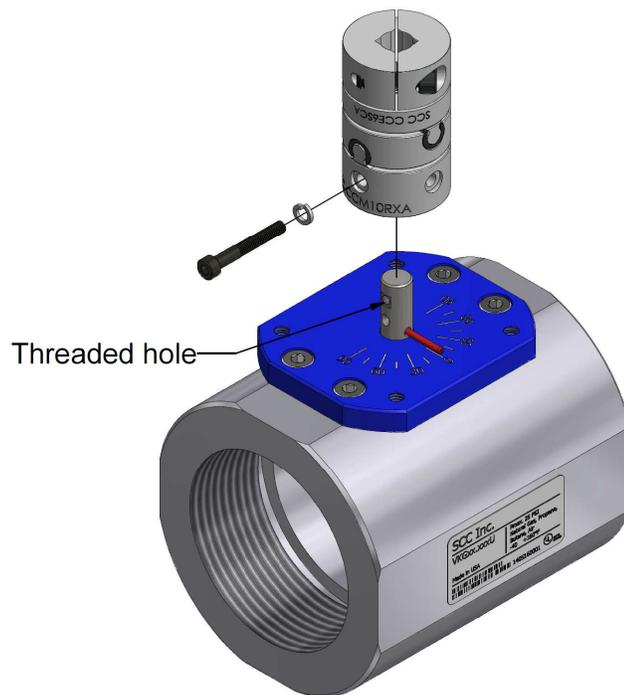

Figure 2: Coupling Installation
1. Slide the coupling over the VKG... valve shaft and line up any of the holes in the coupling with the threaded hole in the valve shaft. Using a 3mm hex key, the M4 split lock washer, and the M4 x 30mm socket cap screw, fasten the coupling to the valve shaft as shown in Figure 2 below.